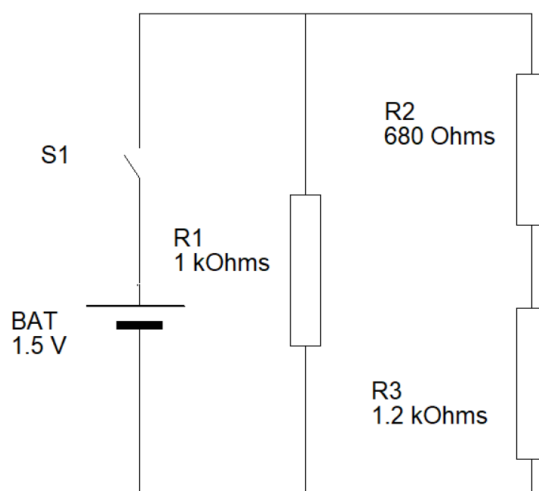

Figure 1: Series-parallel circuit
c. A series-parallel circuit is shown in Figure 1.